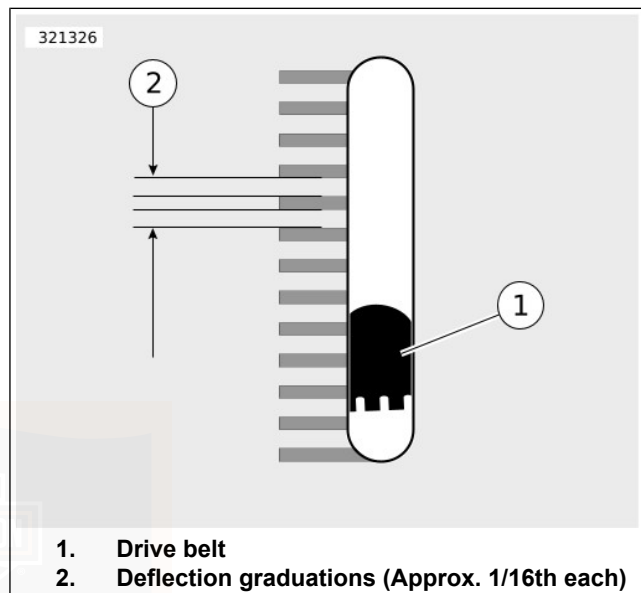

Figure 66. Belt Deflection Window
- a. Slide o-ring (4) to zero mark (3).
- b. Fit belt cradle (2) against bottom of drive belt in line with belt deflection window.
- c. Press upward on knob (6) until o-ring slides down to 4.54 kg (10 lb) mark (5) and hold steady.
3. See Figure 66. Measure belt deflection as viewed through belt deflection viewing window while holding gauge steady. Each deflection graduation is approximately 1.6 mm (1/16 in).